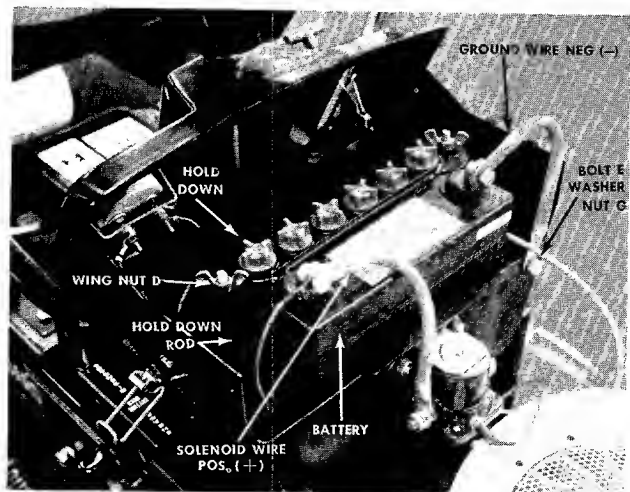

FIGURE 5. INSTALLING THE BATTERY
- b. Place the battery with the terminals to the FRONT in the battery case. See figure 5.